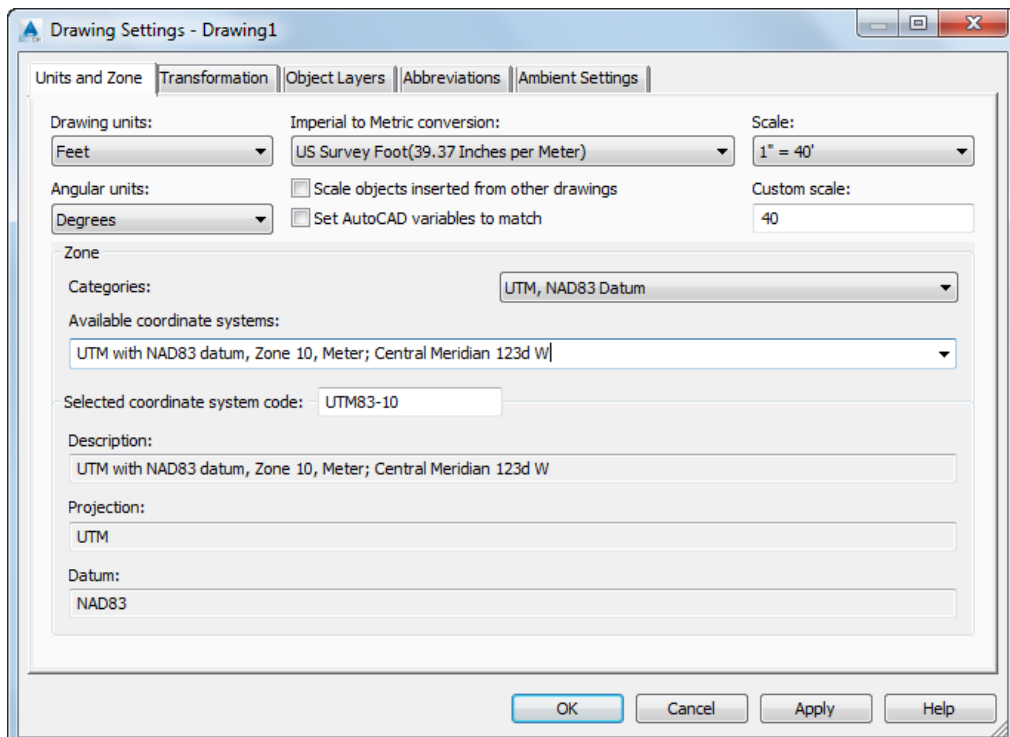

Figure 3-73 The settings in the **Units and Zone** tab of the **Drawing Settings - Drawing 1** dialog box
3. In the **Available coordinate systems** drop-down list, select the option **UTM with NAD83 datum, Zone 11, Meter; Central Meridian 117d W** and then choose the **Apply** button from the **Drawing Settings** dialog box. The drawing is set to UTM Zone 11 projection and the datum is set to NAD 83, refer to Figure 3-73.